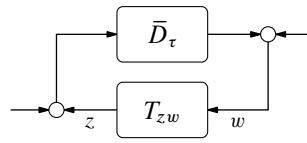

Fig. 1: Delay margin setup
1. Present the system in the form of Fig. 1 with scalar z and w .